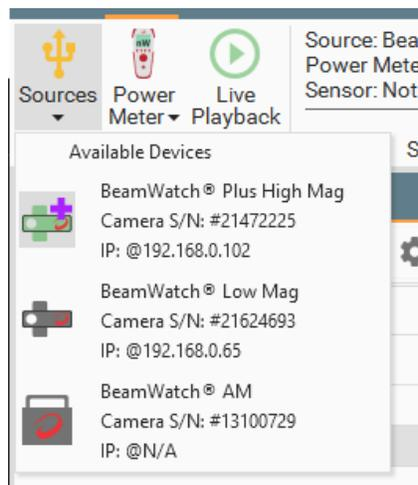

Figure 29: Sources Selection Dropdown
**Sources** opens a dropdown menu that displays connected devices (Figure 29). BeamWatch, BeamWatch Plus, and BeamWatch AM have unique icons that identify each device type. The device name, serial number, and IP address is listed to the right of the device icon. Select a device from the dropdown to set it as the active camera.